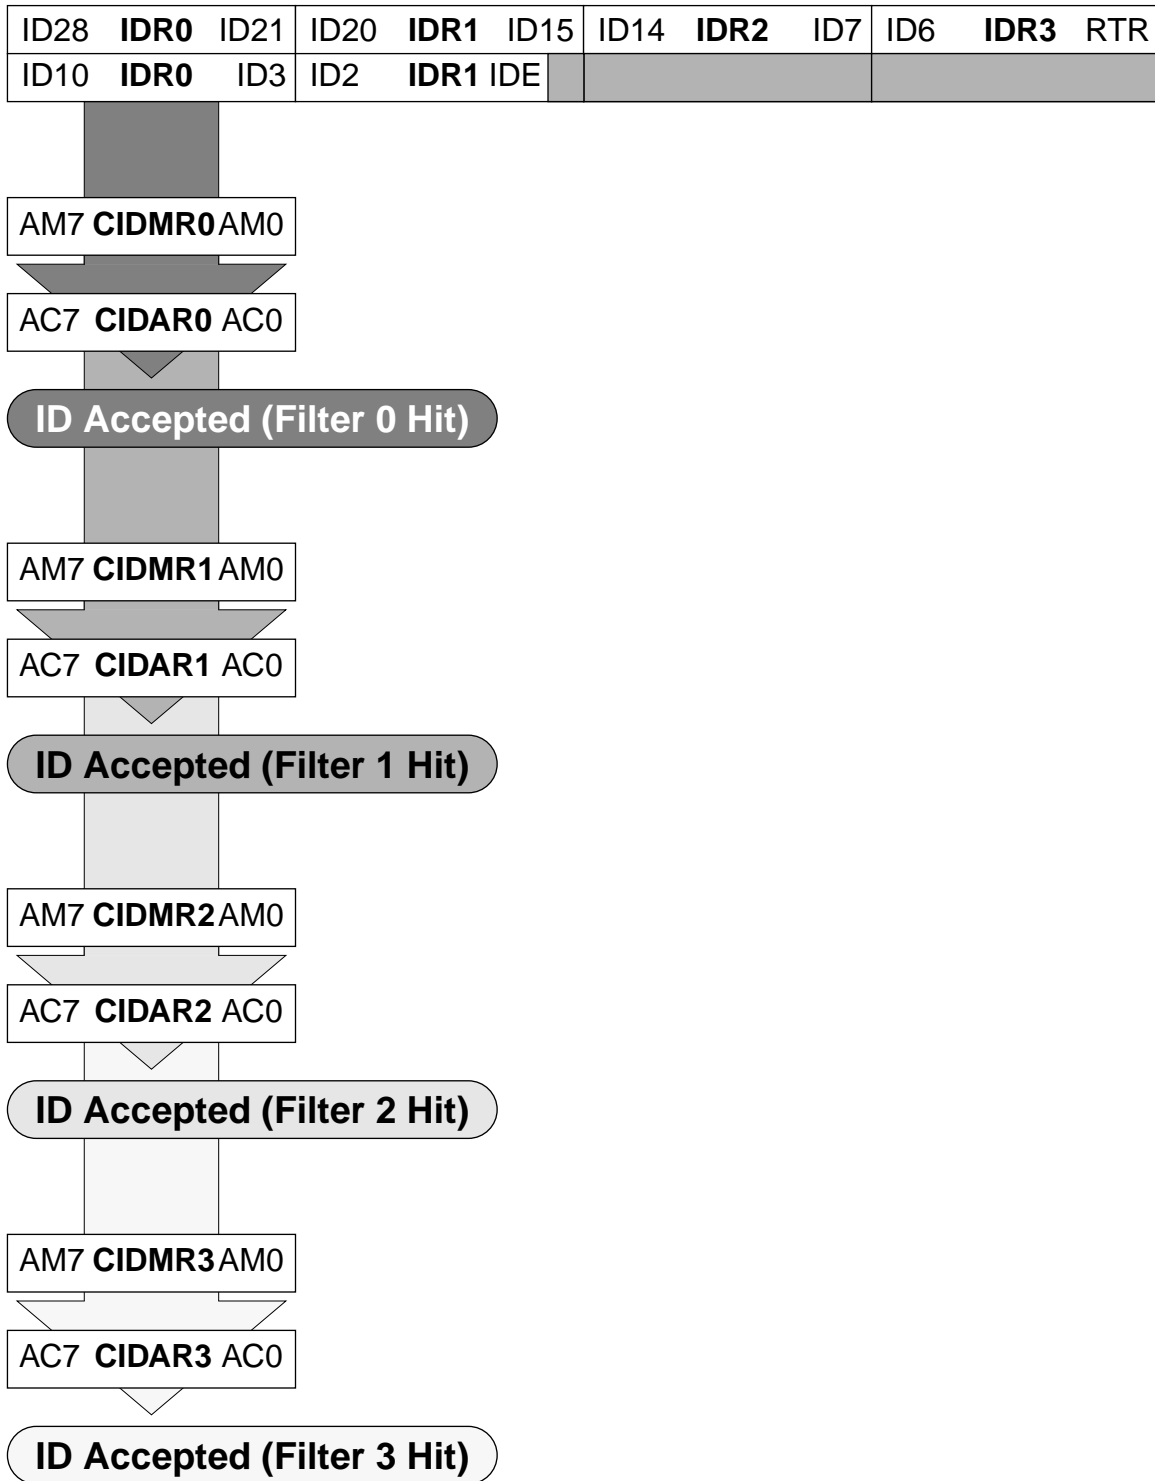

Figure 29 8-bit Maskable Acceptance Filters
- Eight identifier acceptance filters, each to be applied to the first 8 bits of the identifier. This mode implements eight independent filters for the first 8 bit of a CAN 2.0A compliant standard identifier or of a CAN 2.0B compliant extended identifier. **Figure 29** shows how the first 32-bit filter bank (CIDAR0-3, CIDMR0-3) produces filter 0 to 3 hits. Similarly, the second filter bank (CIDAR4-7, CIDMR4-7) produces filter 4 to 7 hits.